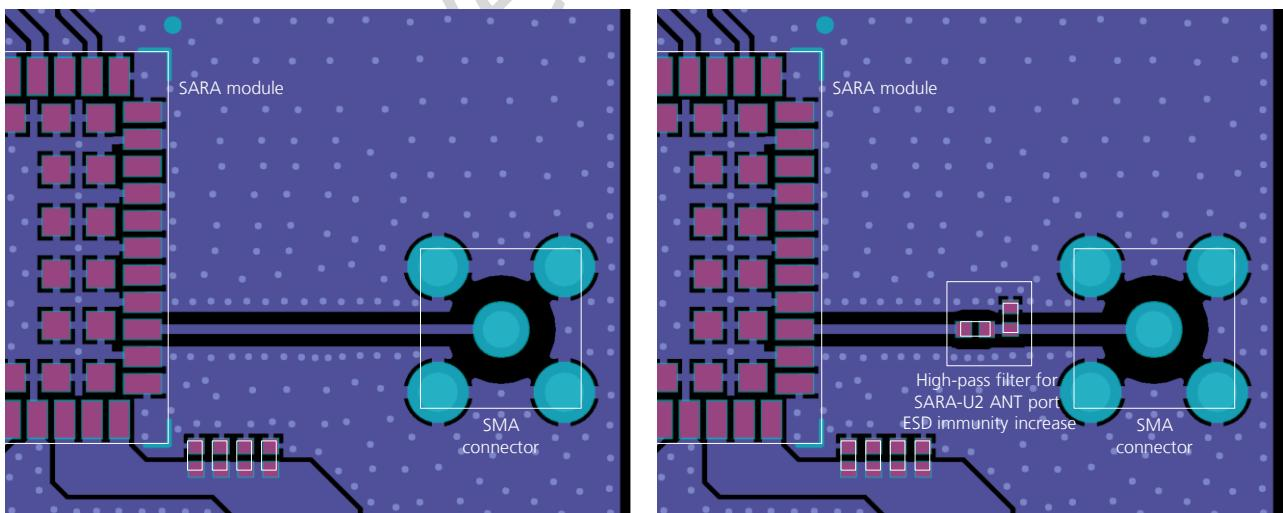

Figure 51: Suggested circuit and layout for antenna RF circuit on application board, if antenna detection is not required
- Add GND vias around transmission line, as described in Figure 51
- Ensure solid metal connection of the adjacent metal layer on the PCB stack-up to main ground layer, providing enough on the adjacent metal layer, as described in Figure 51
Two examples of proper RF circuit design are reported in the Figure 51, where the antenna detection circuit is not implemented (if the antenna detection function is required by the application, follow the guidelines for circuit and layout implementation reported in section 2.4.2):
- SMA Pin-Through-Hole connectors require GND keep-out (i.e. clearance, a void area) on all the layers around the central pin up to annular pads of the four GND posts, as shown in Figure 51
If the antenna detection function is not required by the customer application, the **ANT\_DET** pin can be left not connected and the **ANT** pin can be directly connected to the antenna connector by means of a  $50\ \Omega$  transmission line as described in Figure 51.